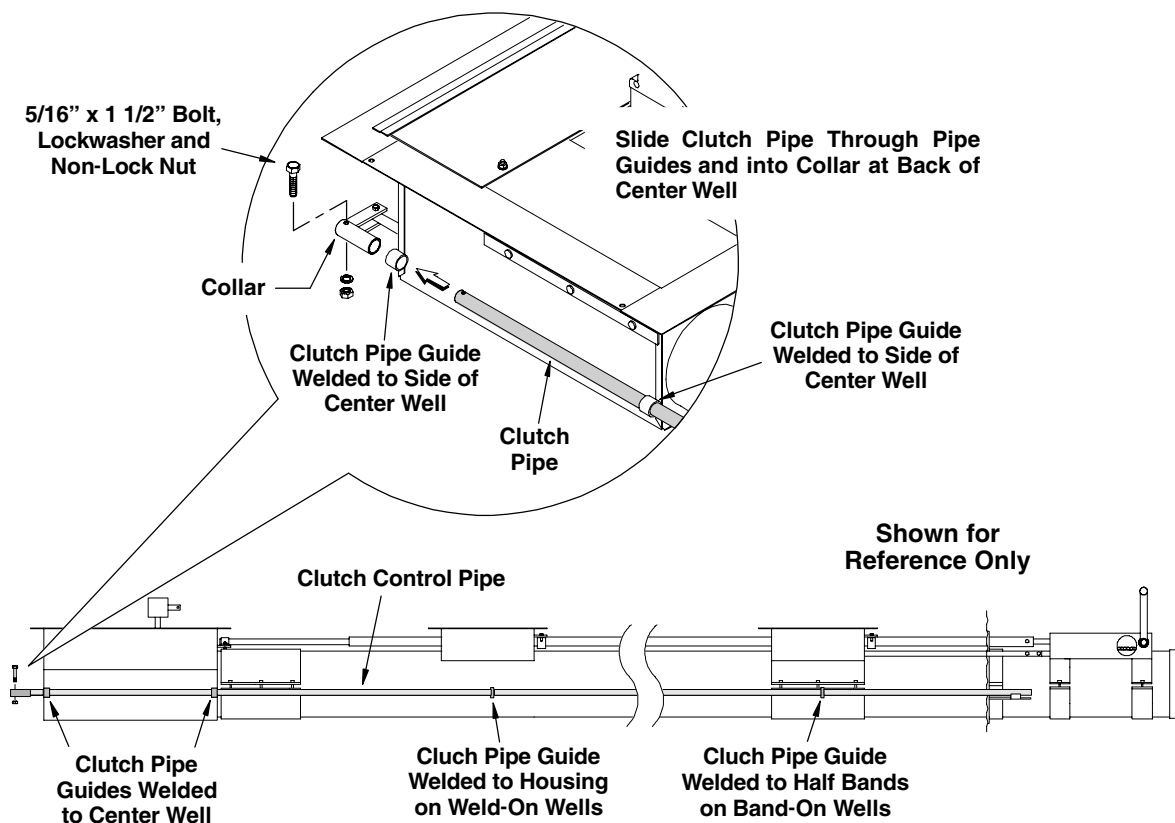

FIG. 19
- B. From the outside of the bin, slide the clutch control pipe through the lower bin flange and through the guide brackets on the intermediate and center wells. Insert control pipe into the collar at the lower rear of the center well (See Fig. 19 below). Secure the control pipe to the collar using one 5/16 x 1 3/4" bolt and nylon lock nut.